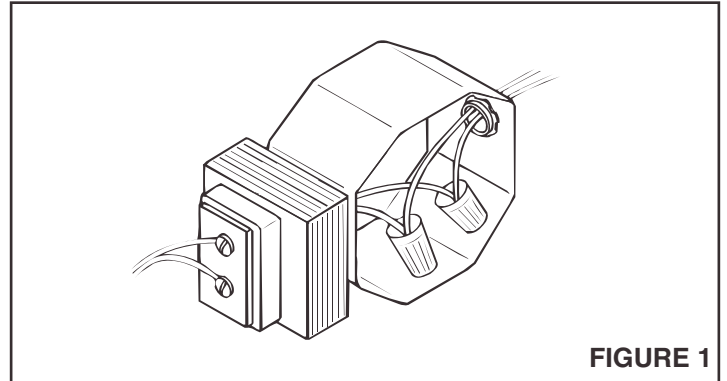

FIGURE 1
1. Refer to Figure 1. Mount the transformer to a convenient junction box (attic location is not recommended) or circuit breaker box. Connect house power leads to transformer leads – black to black and white to white.